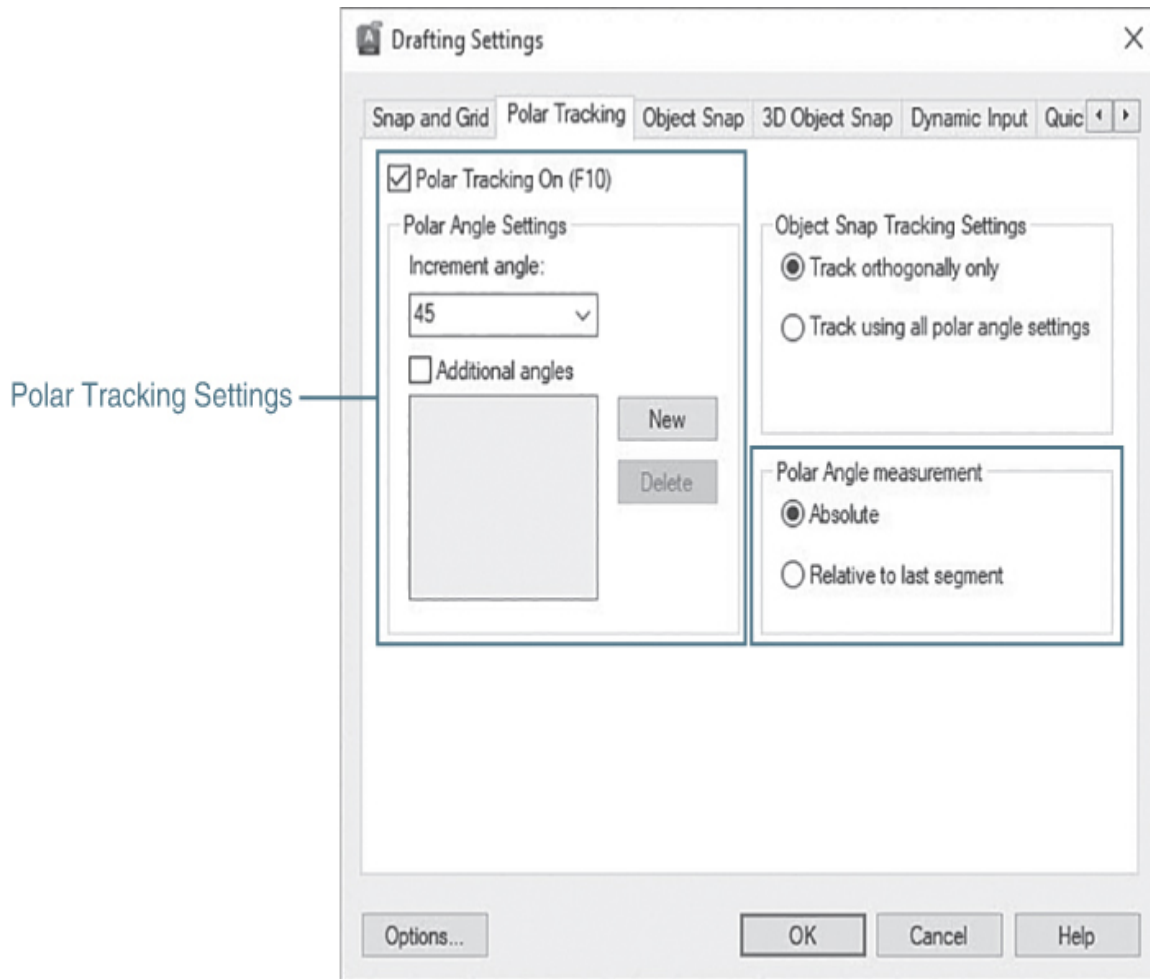

Figure 5-11
The polar tracking settings are controlled on the **Polar Tracking** tab of the **Drafting Settings** dialog box shown in Figure 5-11.
- **Increment angle** A list of default preset angles ranging from 5° through 90° that controls the increment angle upon which polar tracking alignment paths are displayed. In Figure 5-11, a default increment angle of 45° has been selected so that a polar tracking alignment path will be displayed at every increment of 45° (0°, 45°, 90°, 135°, 180°, 225°, 270°, and 315°).
- 3 Click on the down arrow menu to the right of the **Polar Tracking** button on the status bar and select **Tracking Settings...** from the shortcut menu. The **Polar Tracking** tab of the **Drafting Settings** dialog box is displayed (see Figure 5-11).